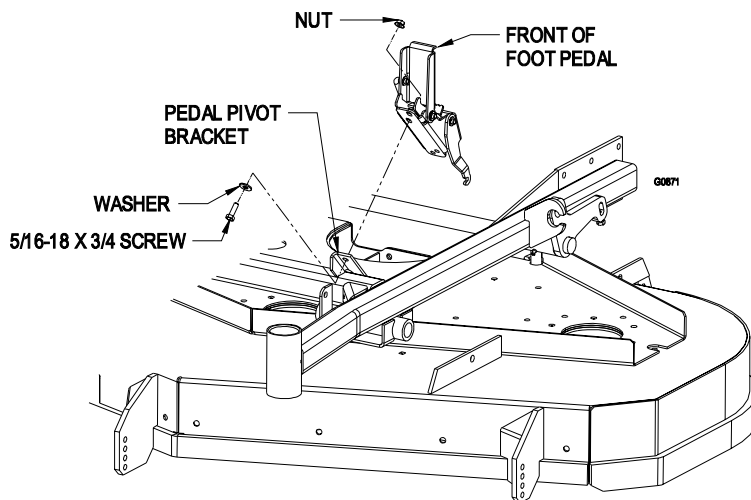

FIGURE 3
3.2.3 Install the foot pedal on the pedal pivot bracket. The upper screw, 5/16-18 x 3/4 (item 4) installs from the bottom of the pedal pivot bracket as shown in Figure 3. Fasten with whizlock nut (item 7).